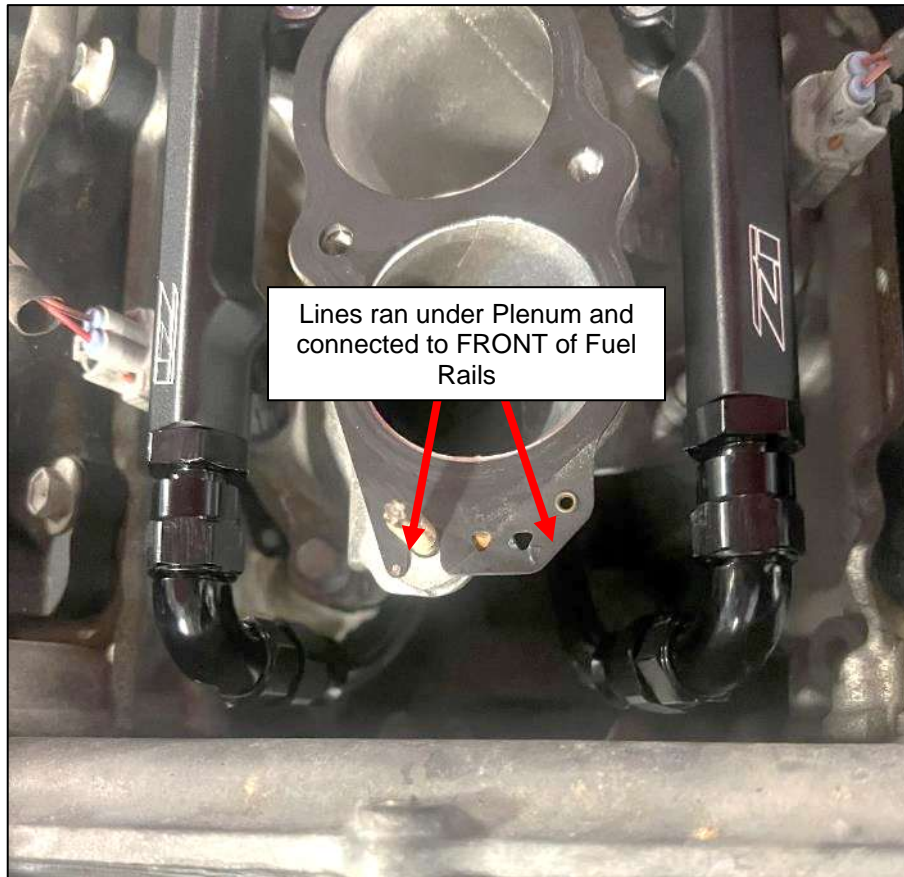

Figure 47
17. Run the (2) two 22098-J3 Feed Lines Underneath the middle of the Lower Plenum towards the front of the engine. You should be able to push them through from the rear, if not you will need to remove the Fuel Lines and Lower Intake Plenum. Install the other end of the short feed lines onto the fittings at the front of the Z1 Fuel Rails. *Figure 47.*